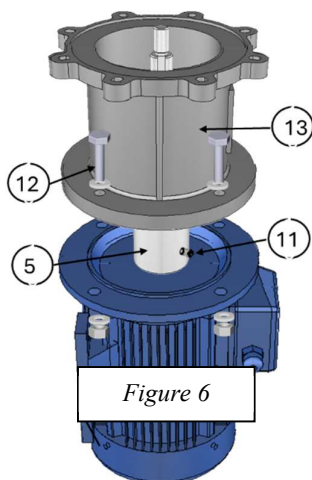

Figure 6
- 4- After performing these operations, you can remove the screws (12) between the lantern and the motor (Figure 6). The shaft of the HCO series pump is coupled directly to the motor, and locked by an Allen grub screw (11)